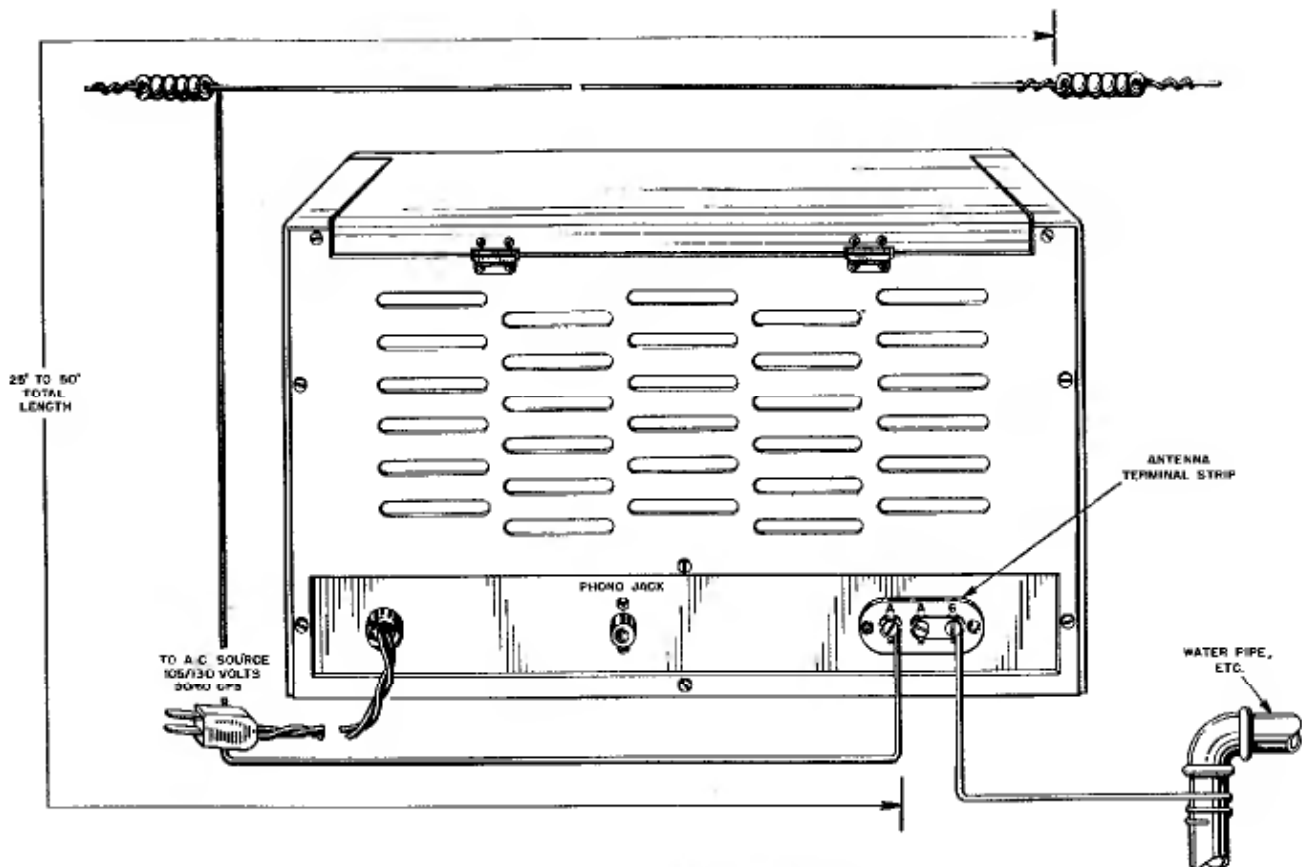

Figure 1. Typical Installation Plan
2. Referring to Figure 1, locate the antenna terminal strip at the rear of the cabinet. Connections to this terminal strip are made by loosening the screw to be used and then wrapping the wire around the screw and tightening with a screwdriver so that the wire is held securely. The method to use in connecting the antenna to the receiver is as follows:
a. Single-Wire Type--The wire is connected to the left hand A terminal on the antenna terminal strip and the other A terminal connected to the G terminal by means of the metal link provided (see Figure 1).
3. Connect a wire from a good external ground (water pipe, radiator, etc. with the paint scraped off at the point of connection) to the terminal marked G on the terminal strip. This connection is not absolutely necessary but in certain localities a considerable reduction in noise may be effected. Refer to Figure 1 for an illustration of a typical
The NC-88 has been equipped with a phono jack (see Figure 1) which will accommodate a standard phono tip plug so that a record player not equipped with an amplifier may be operated through the audio circuits of the receiver. If the record player has other than a standard phono tip plug, the correct fitting can be readily installed. The NC-88 has a